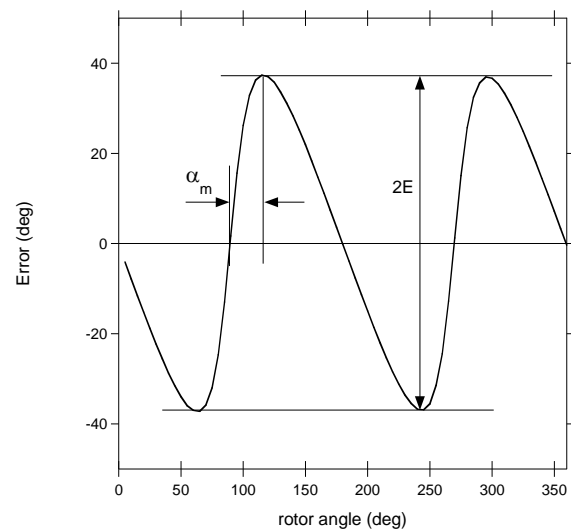

Figure 18: Error Curve in Side-Shaft Configuration with BCT = 0
The ratio k depends on the magnet geometry and distance to the sensor. Having a k ratio different than 1 results in the sensor output response not being linear with respect to the mechanical angle. Note that the error curve has the shape of a double sinewave (see Figure 18). E is the amplitude of this error.
It is possible to deduce the k ratio from the error curve obtained with the default BCT setting (BCT = 0). For this purpose, rotate the magnet over one revolution and record the MagAlpha output. Then plot the error curve (the MagAlpha output minus the real mechanical position vs the real mechanical position) and extract two parameters: the maximum error E and the position of this maximum with respect to a zero crossing a_m (see Figure 18). k can be calculated with Equation (7):